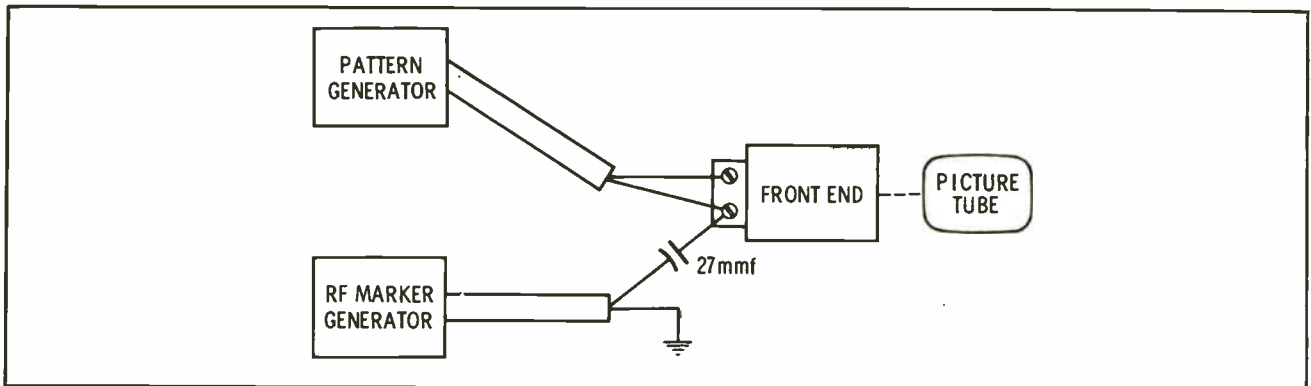

Fig. 2-12. Substitute for a defective local oscillator will produce a signal on the screen.
It is sometimes helpful to turn the receiver off and on several times to initiate the intermittent trouble. Also try raising and lowering the line voltage and changing the signal-input level. While the defective operation is occurring, analyze the picture for confetti, snow, or other key symptoms. For example, a herring-bone pattern might be present in the raster, which points to the possibility of i-f oscillation. When confetti and snow are prominent, it is possible that the local oscillator has stopped. A substitute local-oscillator signal can be injected as shown in Fig. 2-12. The marker generator performs the same function as the local oscillator and will produce a picture on the screen if the local oscillator is at fault.
- Dead local oscillator. Use a signal generator to substitute for the local-oscillator signal, as shown in Fig. 2-12.